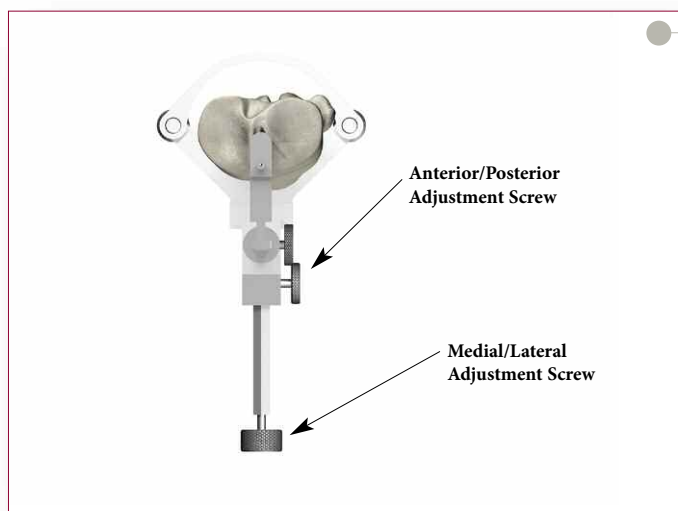

Figure 48
- Once axial alignment is established, tighten the anterior/posterior and medial/lateral adjustment thumbscrews (**Figure 48**).